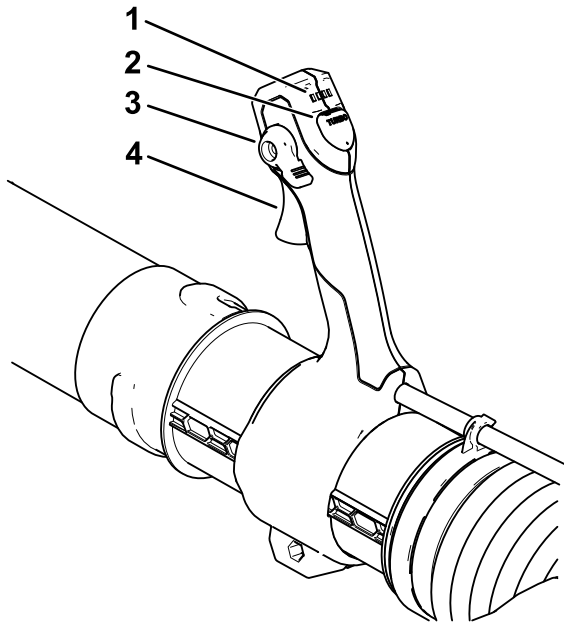

Figure 20
- To start the blower, squeeze the variable-speed trigger (Figure 20).
Note: Engage the speed lock to keep the machine on without pressing the variable-speed trigger (Figure 20).
To adjust the air speed as you blow, use the variable-speed trigger (Figure 20).
To achieve maximum performance (air speed), hold the trigger, then press and hold the turbo boost button for the desired amount of time (Figure 20).
To maintain the current air speed, engage the speed lock (Figure 20).